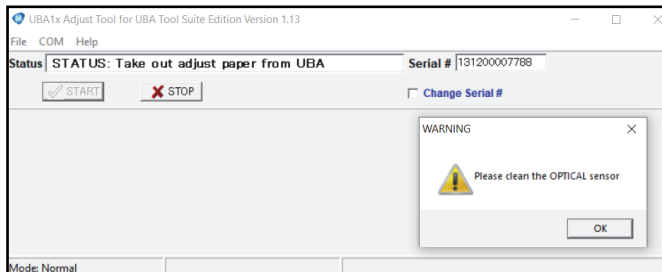

Fig. 1 Clean Optical Sensor Message (UBA1x Adjust Tool UBA Tool Suite)
**Usage:** The Clean Optical Sensor message (Figure 1) may appear during UBA Unit calibration. This warning indicates the UBA Unit's Sensors did not calibrate properly. Until corrective action is taken, the UBA Unit will continue to accept banknotes, but the banknote acceptance rate may be affected, and more frequent cleaning will be required. If the Clean OPTICAL Sensor message appears: